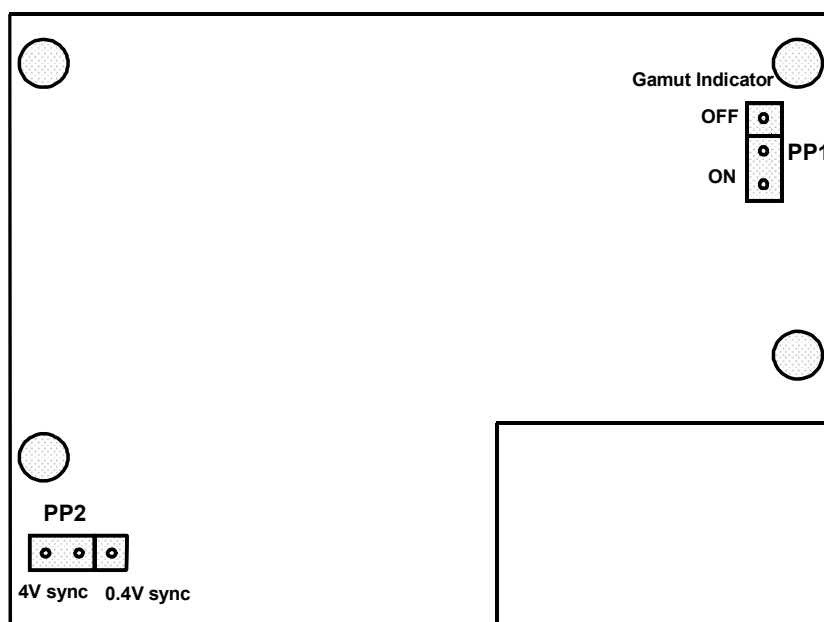

Fig 5-2 Location of jumpers
- ♦ Place the programming plug PP1 according to fig. 5-2
- ♦ Place the programming plug PP2 according to fig. 5-2